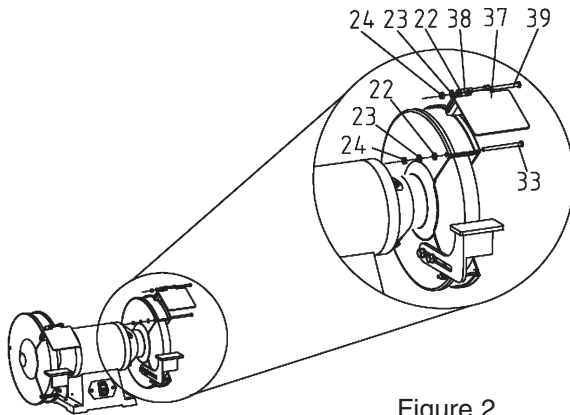

Figure 2
- Step 1:** Attach the eye shield assembly to the shield supports(#38) using bolts(#39), eye shields(#37), spring washer(#22), washer(#23), nut(#24), as shown in Figure 2.